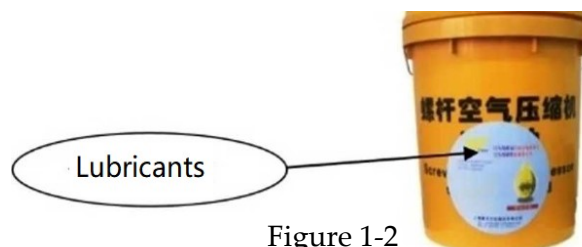

Figure 1-2
- Use Screw Compressor Lubricants, as shown in figure1-2.